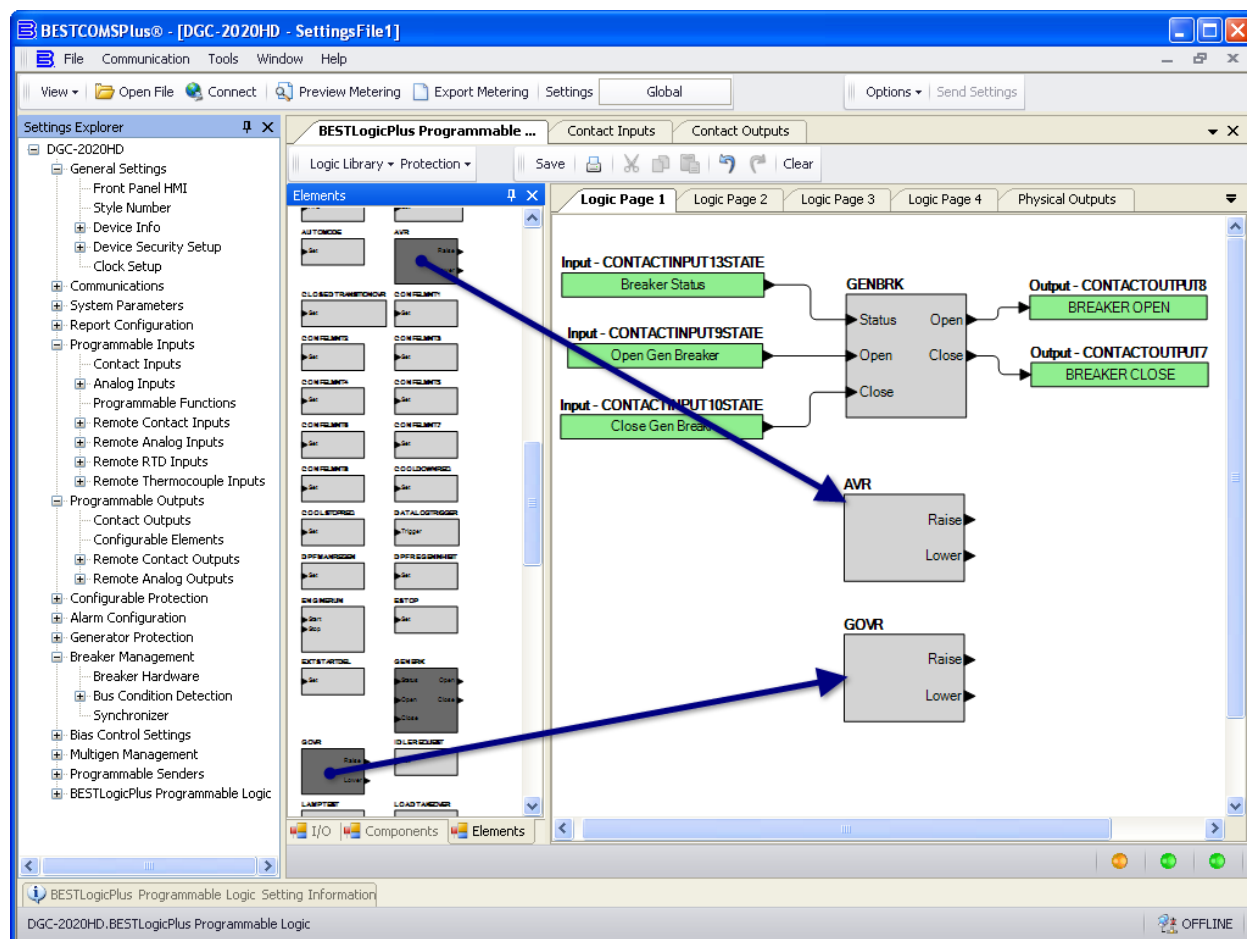

Figure 57. Synchronizer Setup in BESTLogicPlus Step 14
14. If using analog outputs to bias the voltage regulator and governor, no further setup is necessary. If using output contacts, they must be set up to drive these functions. In BESTlogicPlus programmable logic, click on the Elements tab. Drag the GOVR and AVR logic blocks into the main logic screen. See Figure 57.